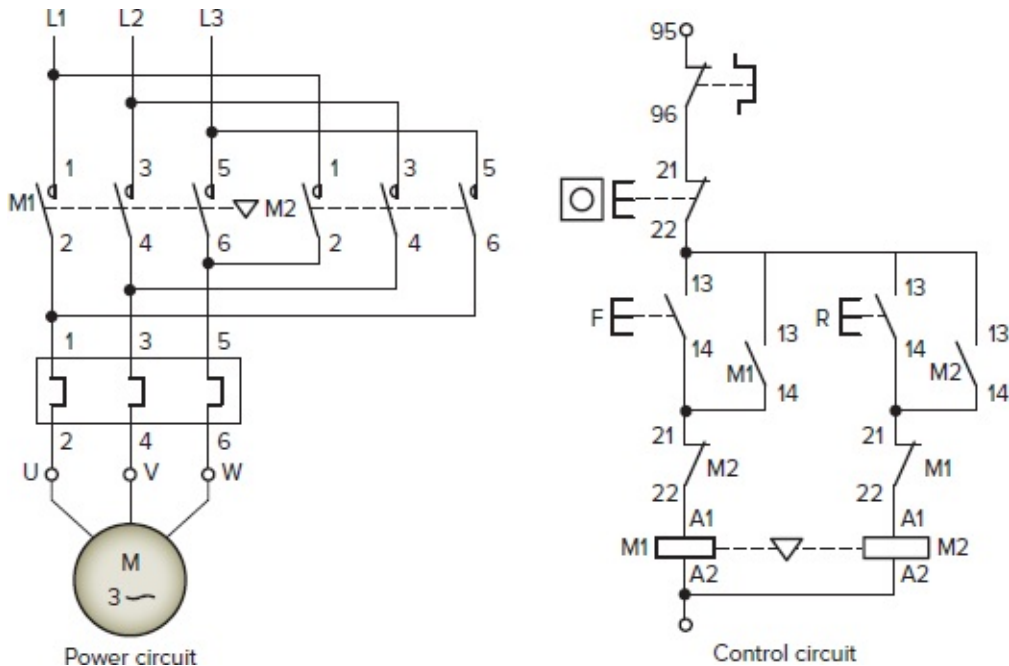

Figure 8-34 Reversing starter circuit implemented using IEC symbols.
- Figure 8-34 shows the reversing starter circuit implemented using IEC symbols.